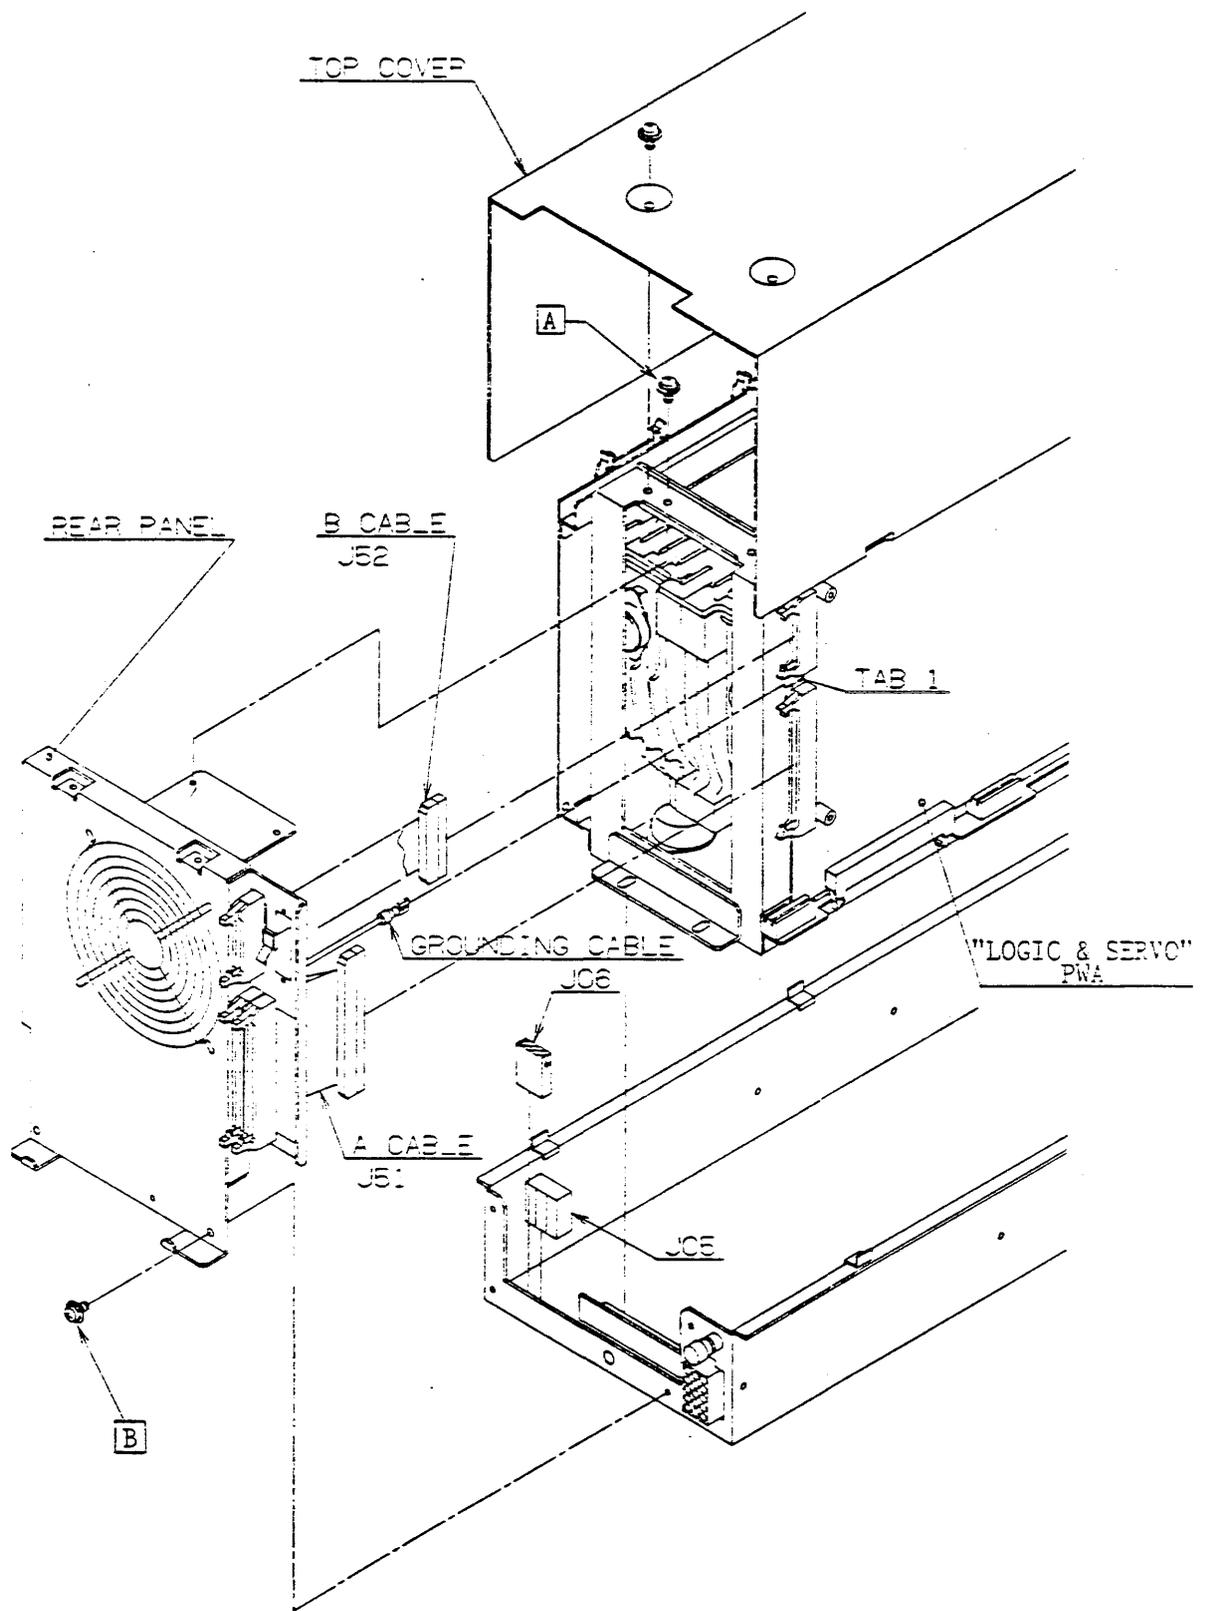

Figure 4-6 Rear Panel Removal and Replacement
4.6 FAN/RELAY REMOVAL AND REPLACEMENT - SEE FIGURE 4-6, FIGURE 4-7
4.6.1 Rear Panel Removal (Figure 4-6)